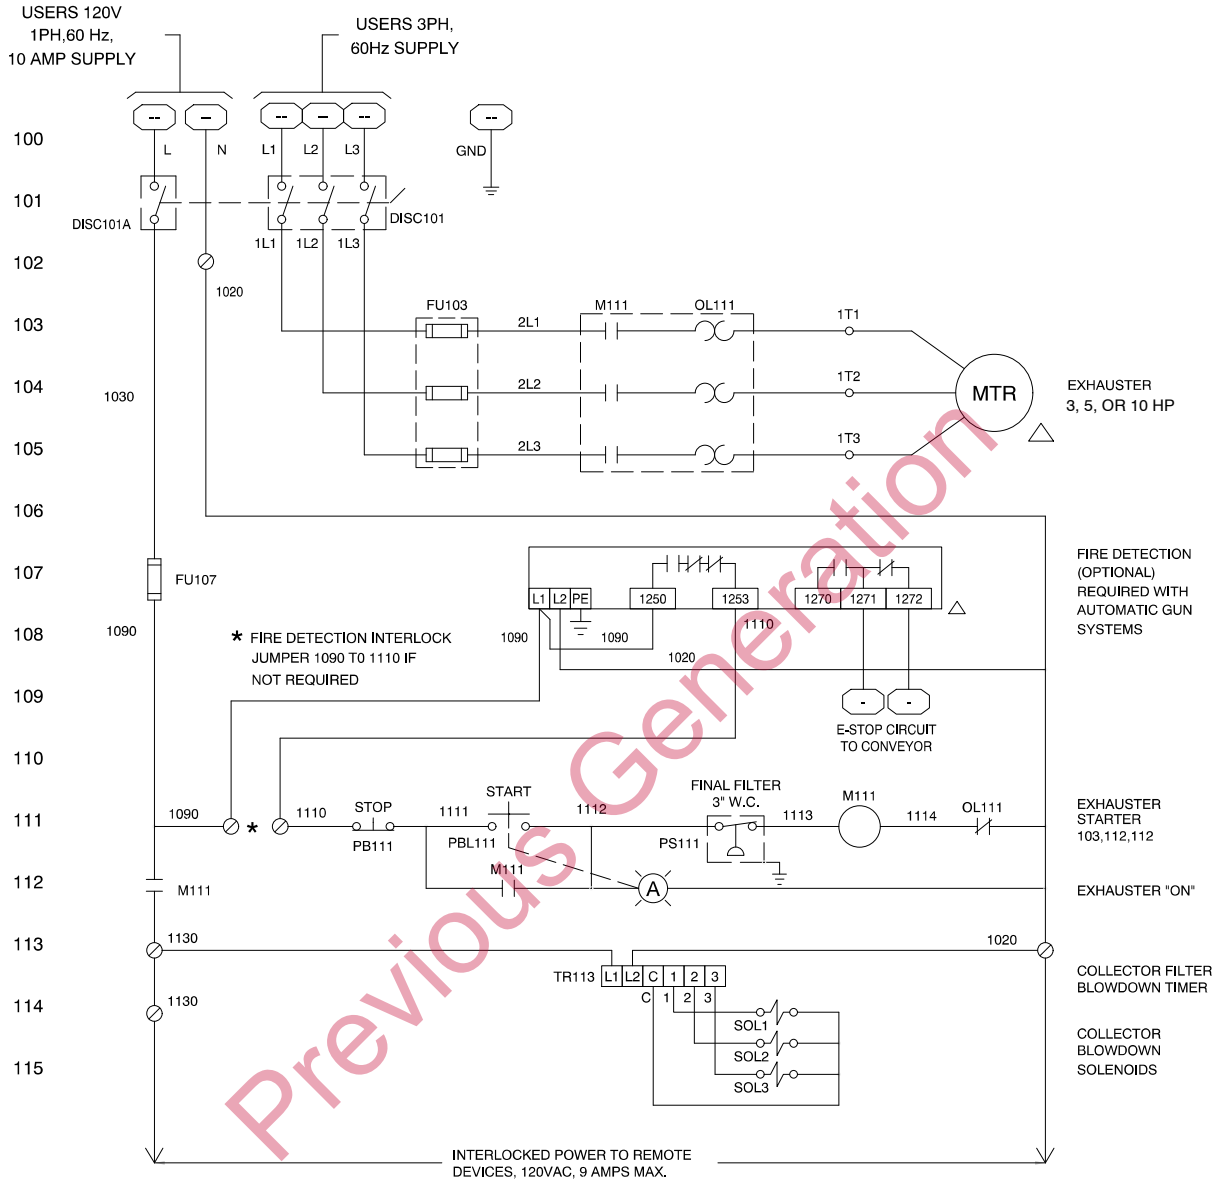

Figure 3-6 Three-Phase Electrical Panel Schematic
- **Three-Phase Systems:** See Figure 3-6.